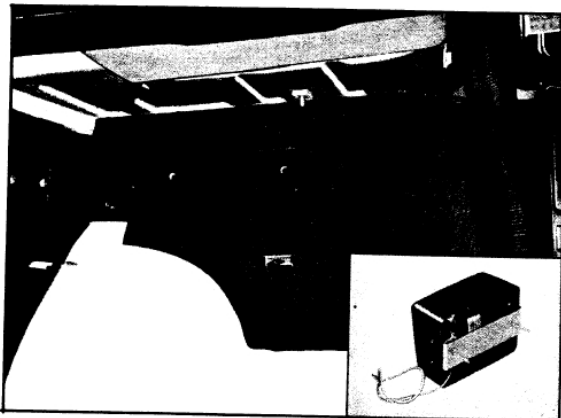

Fig. BE-37 Installing speaker
6. Install speaker. See Figure BE-37